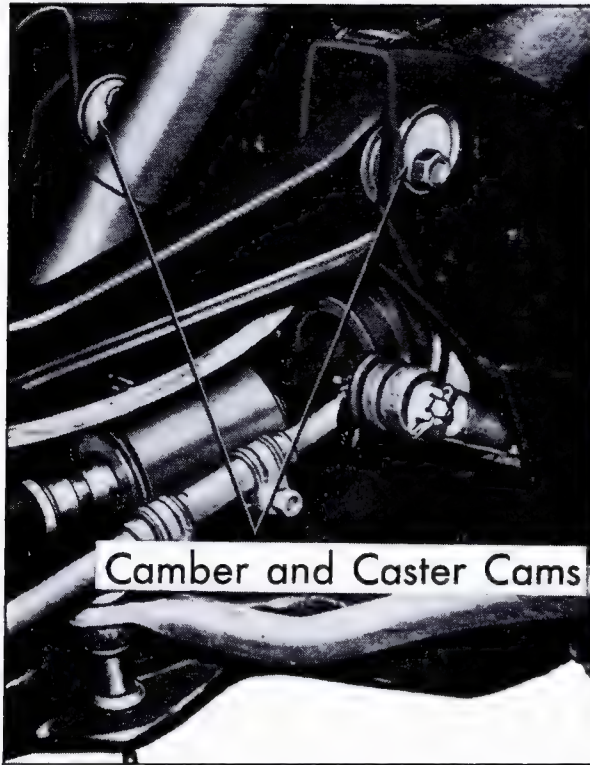

Fig. 3-56 Caster, Camber, Cam Locations
b. Camber and Caster (Fig. 3-56)